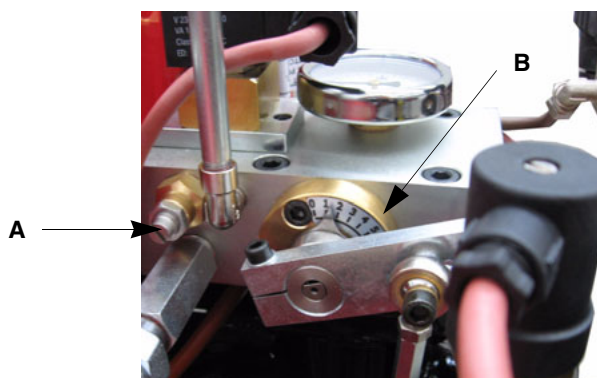

Fig. 25
- Remove and clean the compressed air regulator A in Fig. 25
- Remove and clean the oil regulator B in Fig. 25